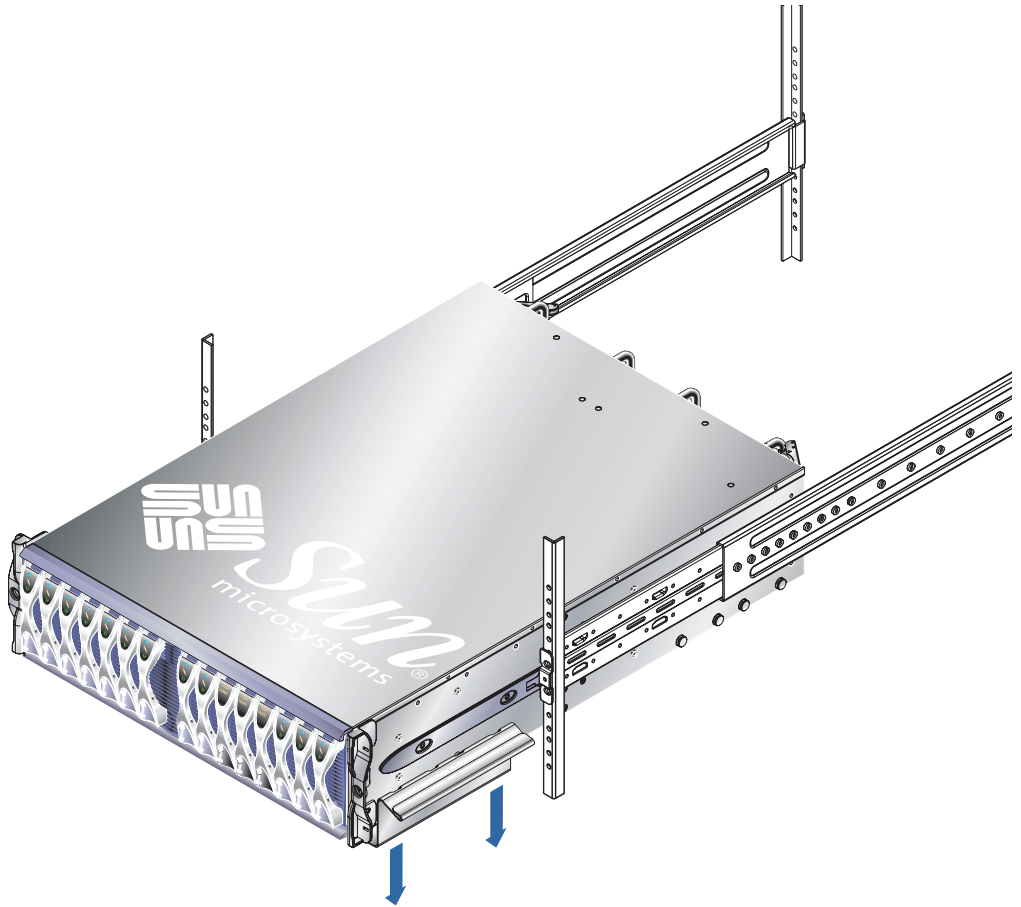

FIGURE 3-7 Removing the Sacrificial Lifting Handle (19-Inch, Four-Post Rack)
6. Slide the system chassis into the rack (FIGURE 3-7).
7. Remove the front sacrificial lifting handle (FIGURE 3-7).